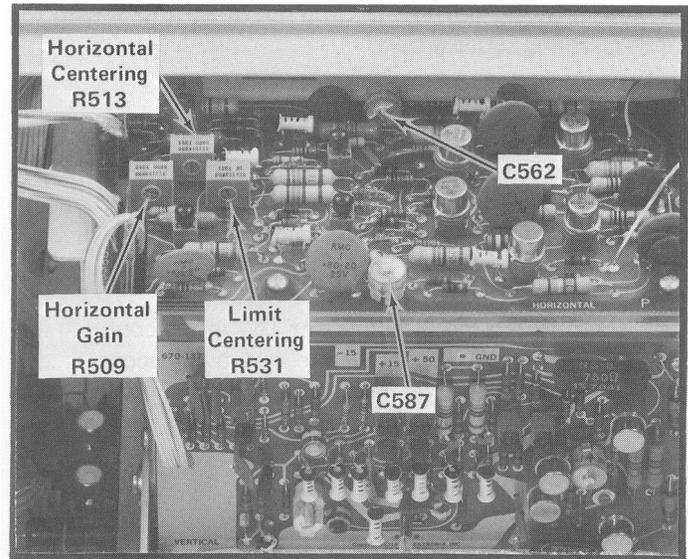

Fig. 5-7. Locations of Horizontal System Adjustments.
- f. ADJUST—Horizontal Gain adjustment R509 (see Fig. 5-7) for exactly eight divisions of deflection between the second and eighth traces.
- c. ADJUST—Horizontal Centering adjustment R513 (see Fig. 5-7) to position the trace to the vertical center line.
h. ADJUST—Limit Centering adjustment R531 (see Fig. 5-7) to match the DC levels of both waveforms.
j. ADJUST—C562 and C587 (see Fig. 5-7) for one marker each two divisions over the center eight divisions (use low-capacitance screwdriver).